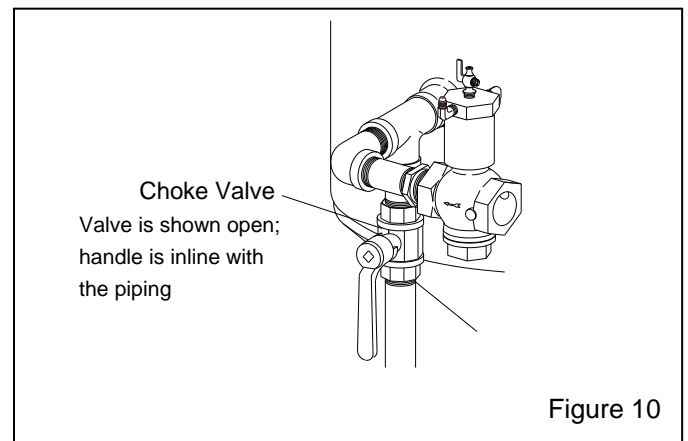

Figure 10
3.2.7 Make sure the choke valve is open (handle inline with the piping as shown in Figure 10).
### **3.6 Operation and Function of the Choke Valve Refer to Figure 10**
**3.6.1** Always fully open the choke valve while blasting; open is when the handle is vertical and inline with the piping as shown in Figure 10.